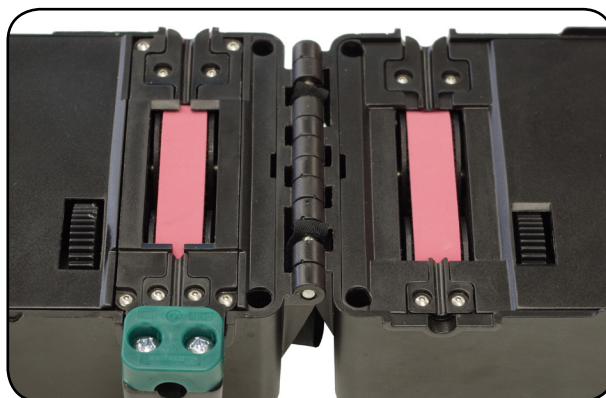

Figure 3
Step 3: Repeat Steps 1 and 2 on the other belt until both belts are clean (**Figure 3**).